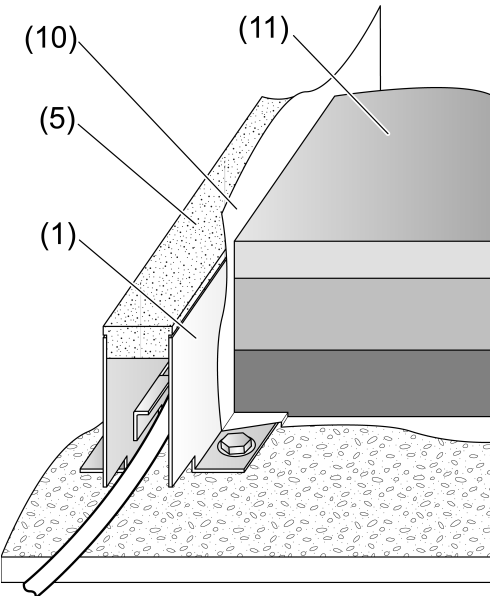

Figure 6
In the case of floating floor finishes, the frame must be separated from the floor (11) by means of a foil (10) (Figure 6).